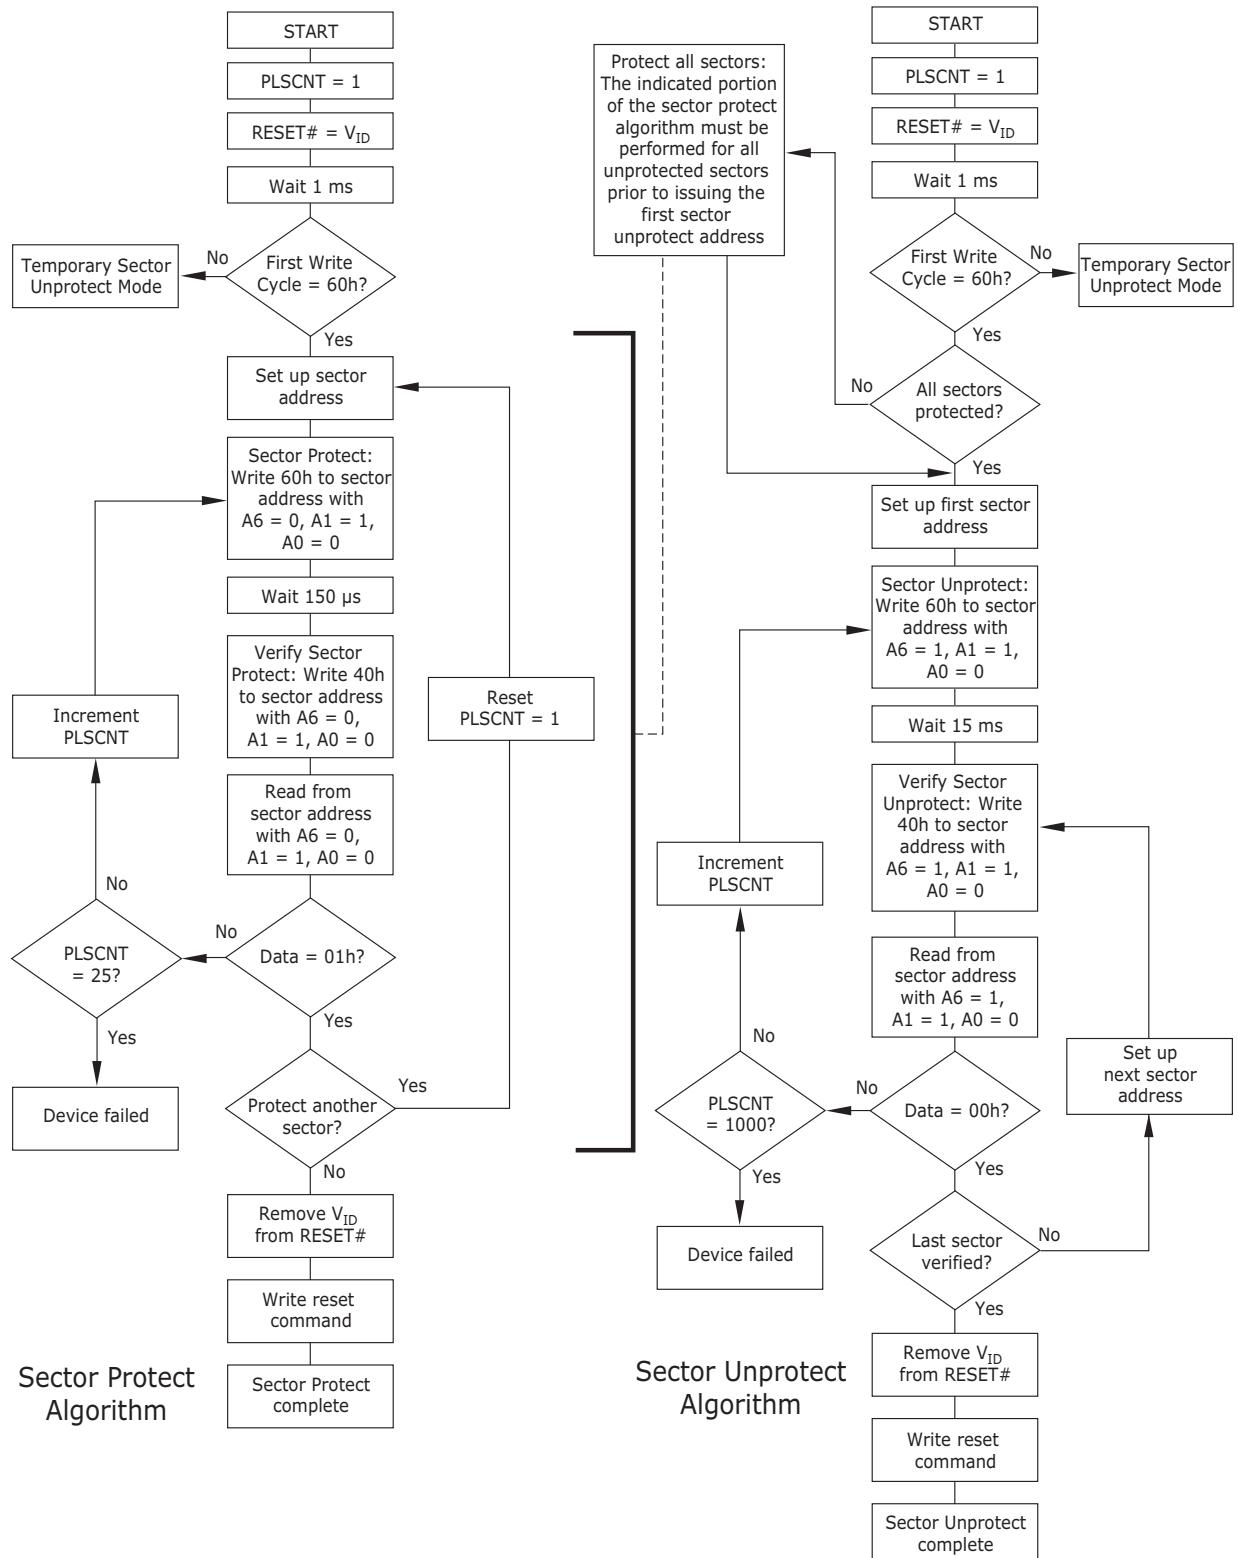

Figure 2. In-System Sector Protect/Unprotect Algorithms
Sector protect/Sector Unprotect requires V_{ID} on the RESET# pin only, and can be implemented either in-system or via programming equipment. Figure 2 shows the algorithms and Figure 26 shows the timing diagram. For sector unprotect, all unprotected sectors must first be protected prior to the first sector unprotect write cycle. *Note that the sector unprotect algorithm unprotects all sectors in parallel. All previously protected sectors must be individually re-protected.* To change data in protected sectors efficiently, the temporary sector unprotect function is available. See "Temporary Sector Unprotect".
- Write the three-cycle Enter SecSi Sector Region command sequence, and then follow the in-system sector protect algorithm as shown in Figure 2, except that *RESET#* *may be at either V_{IH} or V_{ID}* . This allows in-system protection of the SecSi Sector Region without raising any device pin to a high voltage. Note that this method is only applicable to the SecSi Sector.